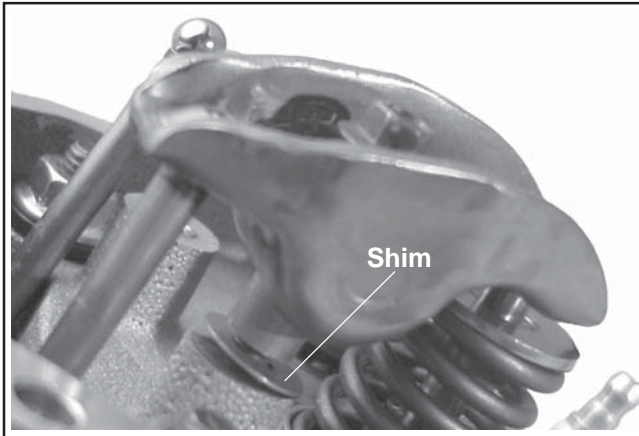
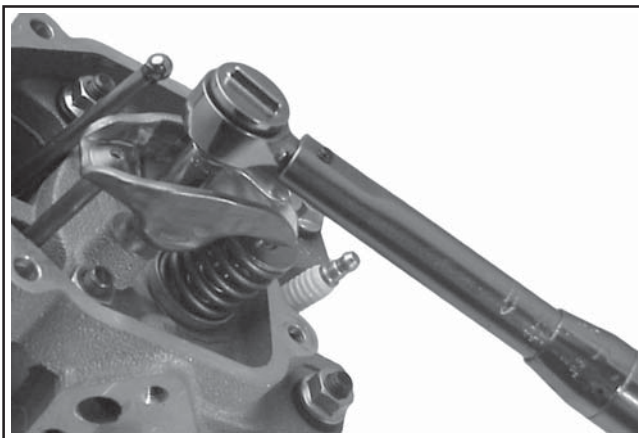

Figure 11-36. Installing Shim(s).
Figure 11-37. Torquing Rocker Arm.
14. Reassemble the rocker arm and pivot assembly (with shims) to the head (see Figure 11-36) and seat the push rod. Torque the fastener; **11.3 N·m (100 in. lb.)** for a hex. flange screw, or **17.3 N·m (153 in. lb.)** for a lock nut. See Figure 11-37.
2. Align rocker arm over valve and torque the hex. flange screw to **11.3 N·m (100 in. lb.)**. Repeat for the other rocker arm. See Figure 11-37.